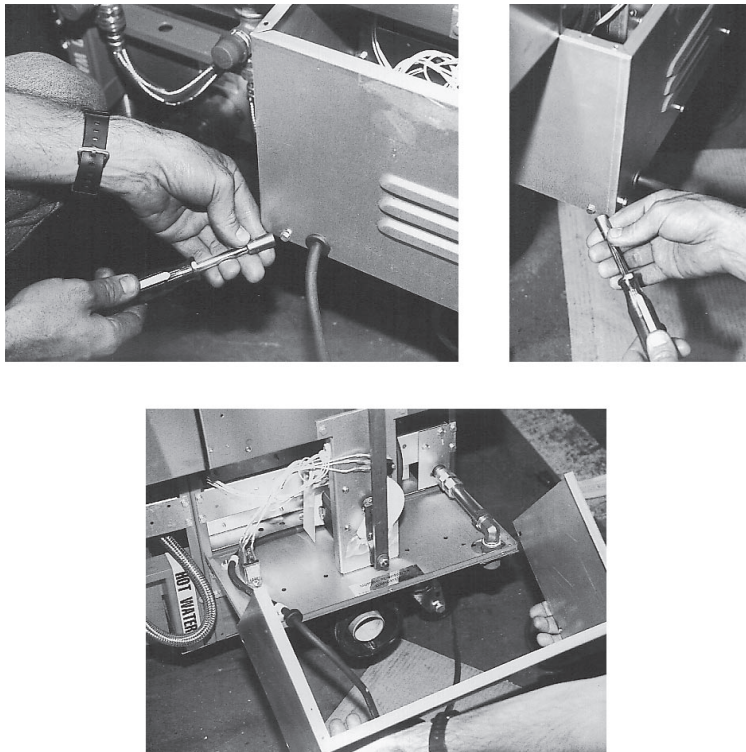

Fig. 64
6. Disconnect the gas line and remove the lower basket lift back by disengaging (2) screws at each lower side of the cover and (2) screws from each lower back corner using a $\frac{1}{4}$ " socket . (Fig. 64)